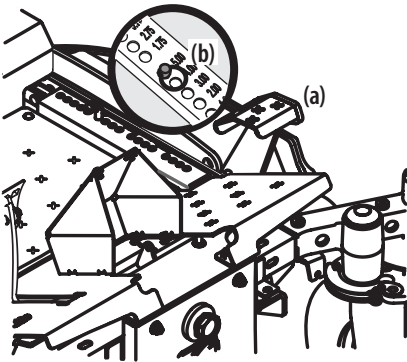

Figure 2-1
2. Use the deck lift pedal (a) to raise the deck to its highest position and secure in place with the clevis pin (b) attached to the tractor. See Figure 2-1.